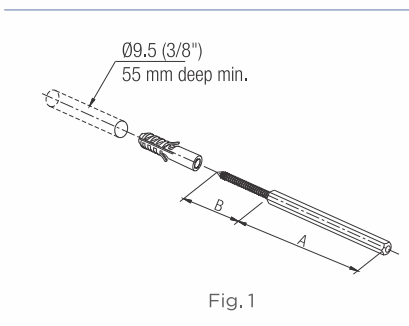

Fig. 1
1. Fit special wall plug provided in the dry wall using $\varnothing 9.5$ (3/8") masonry drill (Refer Fig. 1).